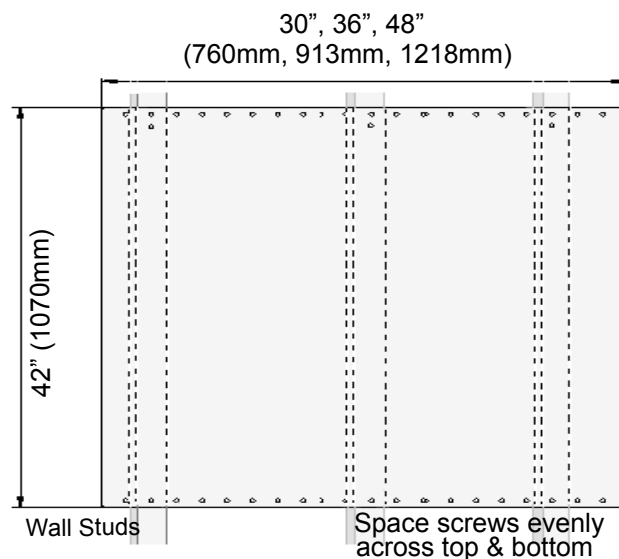

Figure 15: Backsplash Installation
- Per each wall stud, use (2) of the provided screws to secure both the top and bottom of the backsplash (see *Figure 15*).